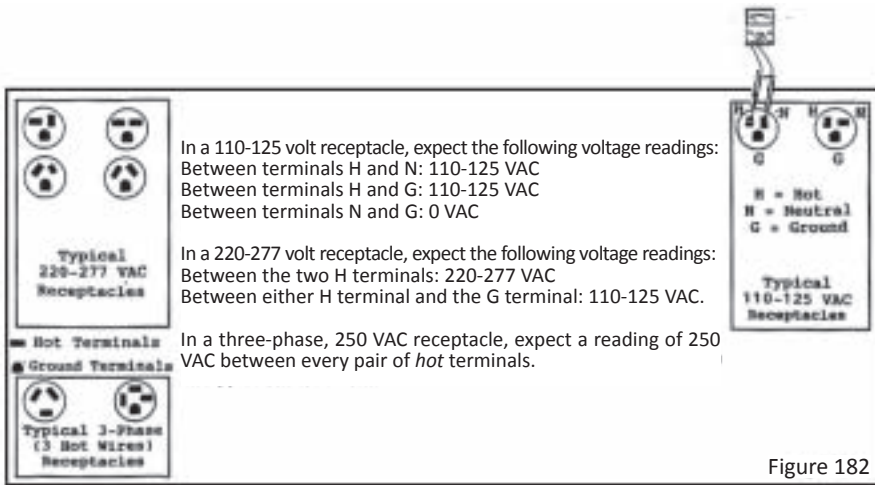

Figure 182
2. The chassis is grounded in the power receptacle (see fig. 182 in which the opening marked G is the ground connection). The receptacles are connected to ground by a wire leading to an eight-foot copper rod which is buried in the earth outside. If the receptacle being used is not grounded, secure a piece of wire to the chassis and connect the other end to the nearest cold-water faucet. This will do the job as well since cold water pipes run under the ground. It is the amperage, not the voltage, which is the dangerous ingredient of electricity. A very small amount of amperage driven by 120 volts of 60 hertz current can be fatal.
A *voltmeter* registers the potential difference (voltage). In figure 182, if the two voltmeter probes were to touch the H or N terminal of the 110 VAC receptacle, no voltage would be registered on the meter. But if one probe were to touch the H and the other one touch the N terminal, the meter would register a voltage reading because of the existence of a potential difference between these two terminals. In wiring diagrams, the two terminals are represented as L1 (the *hot* terminal) and L2 (the *neutral* terminal in a 110 VAC circuit, and another hot terminal in a 220 VAC receptacle). Knowing this simple principle is essential in using a voltmeter in any circuit.
In a 110-125 volt receptacle, one of the two top slots are the hot wire terminal (the smaller opening H) and the neutral wire terminal (the larger opening N), and the bottom terminal (G) is connected to ground (G). (See fig. 182.)